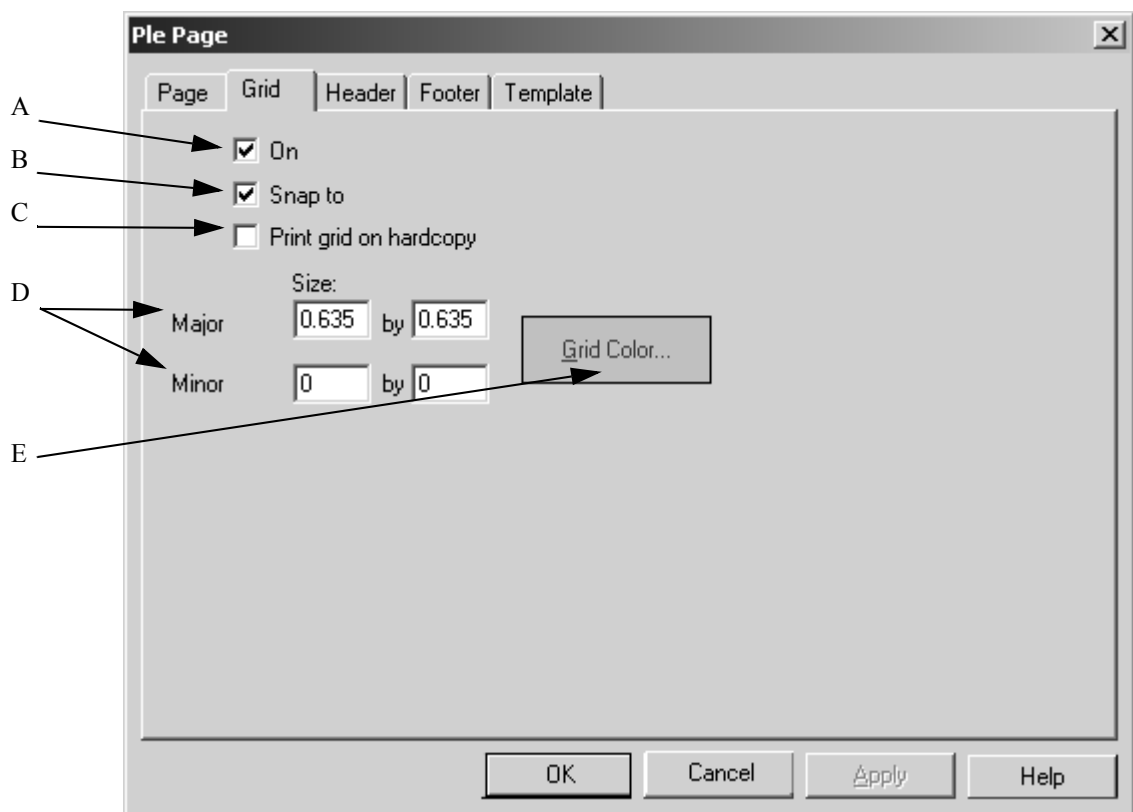

Figure 282: PLE Page - Grid tab
- D) The *Major* and *Minor* settings define the grid size in the unit specified on the *Page* tab. Figure 282 exemplifies a grid size of 1 x 1 inch. The grid can be further divided by filling in the *Minor* entry fields.